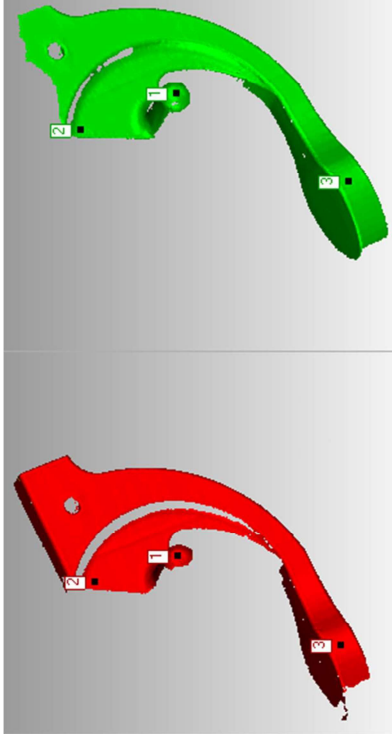

Figure 40
5. Pick the points as indicated in **Figure 40** on both the **Fixed** (red) and **Floating** scans (green) at approximately the same locations on each.